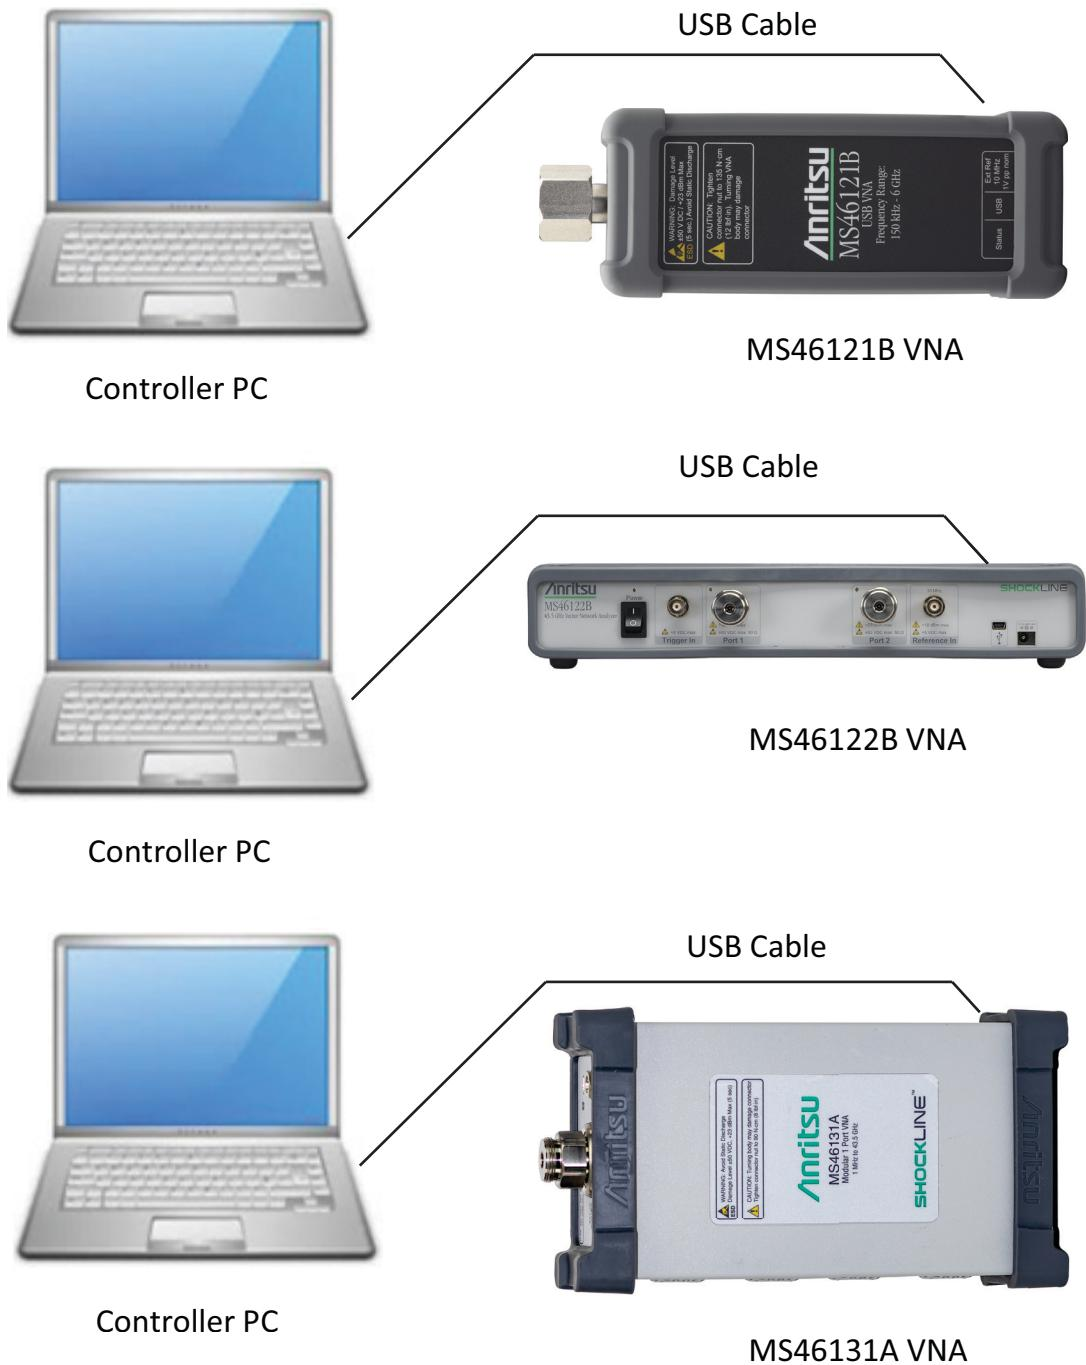
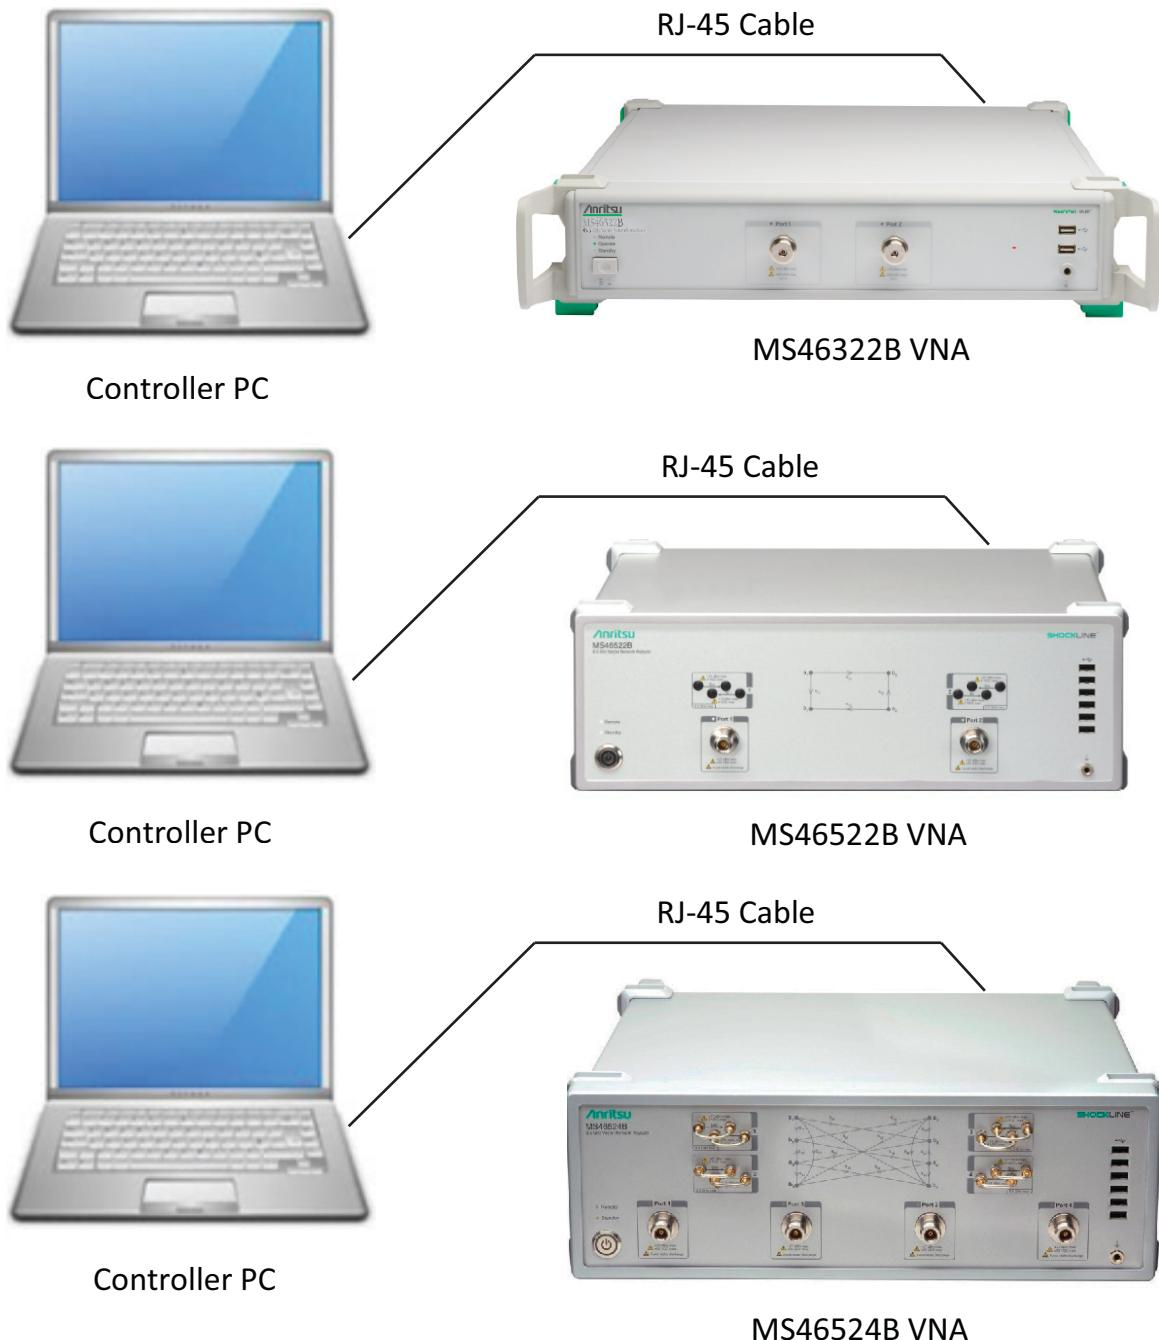

Figure 1-13. Connecting the ShockLine VNA (MS46121B, MS46122B, MS46131A)
Figure 1-14. Connecting the ShockLine VNA (MS46322B, MS46522B, MS46524B)
7. Connect the controller PC to the ShockLine VNA as shown in Figure 1-13 or Figure 1-14.